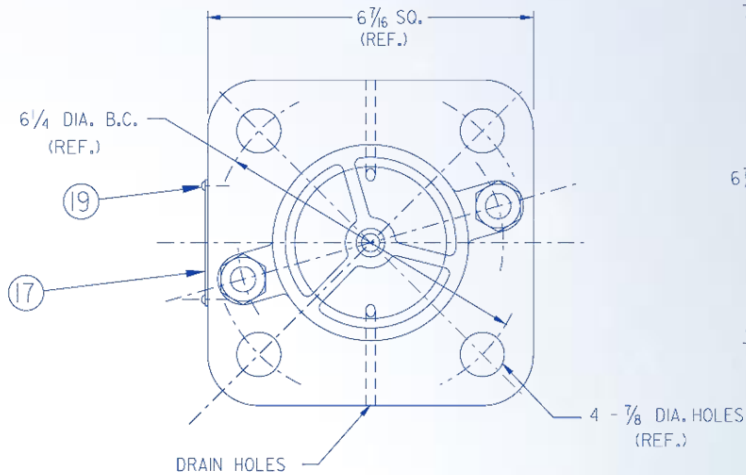

Figure 1: Top View of Low-Flow SRV's
5.0 Low Flow SRV Disassembly: (Refer to Table 2 and Figures 1 & 2)